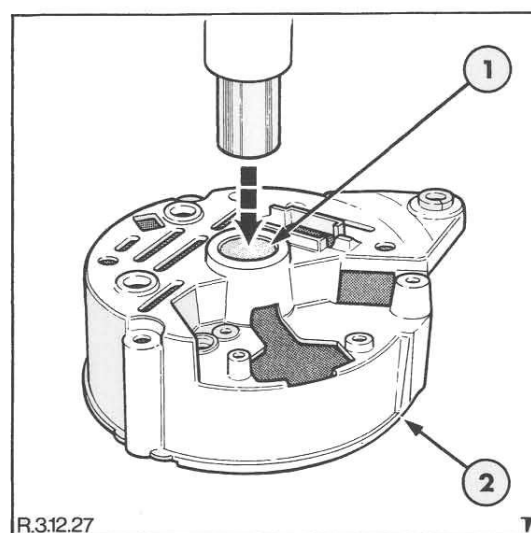

Figure 27
4. If bearing replacement is necessary support the housing (rear end bracket) and, using a suitable size mandrel, carefully drive out the bearing, Figure 27.